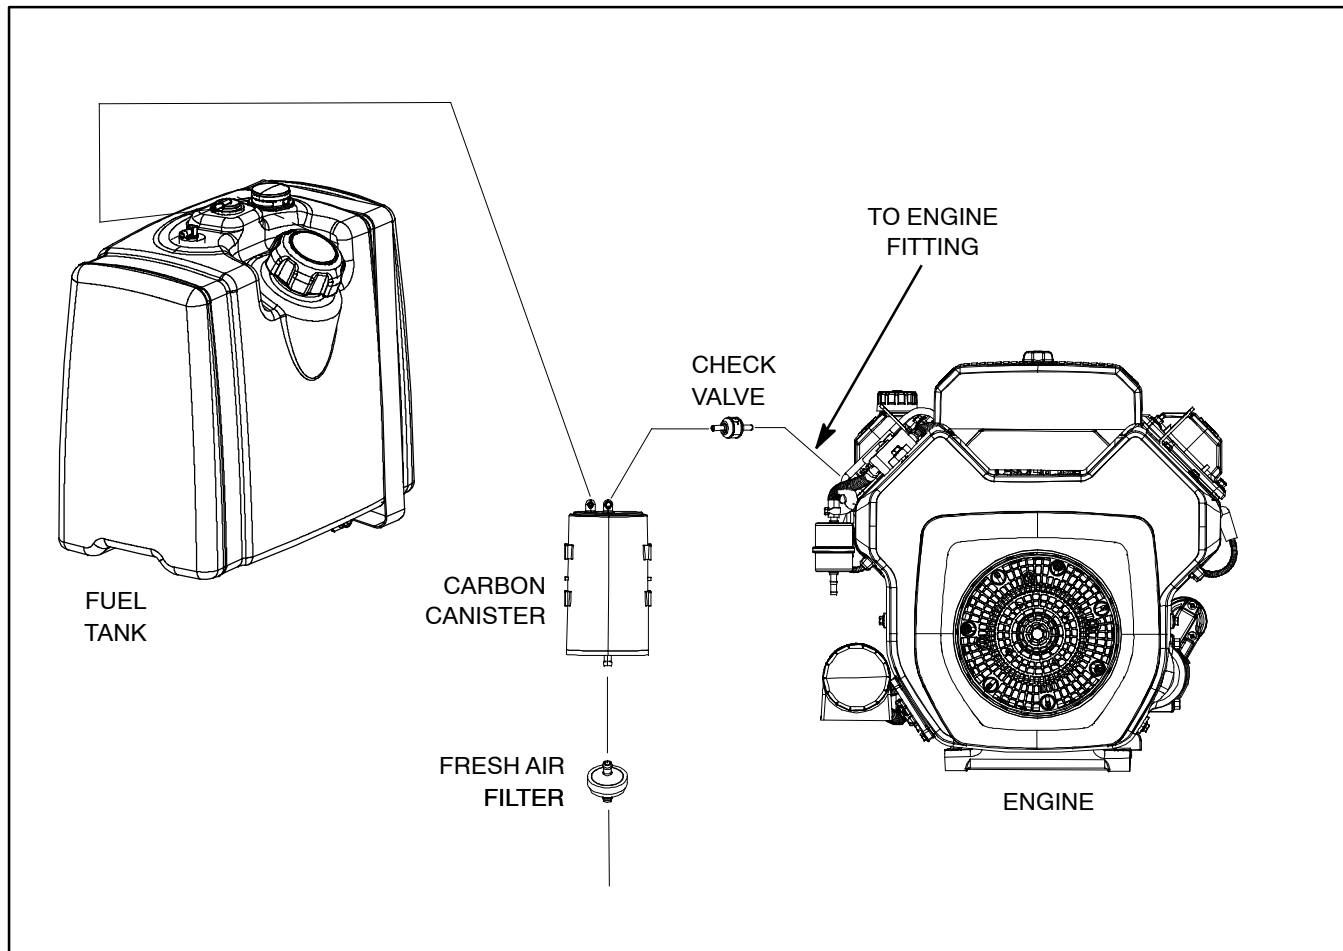

Figure 19
Machines with a carbon canister include a single engine connection to the engine intake system that is used to connect the evaporative system to the engine. These machines use an inline check valve between the carbon canister and the engine fitting. Evaporative control system components for Multi Pro 1200 and 1250 sprayers are shown in Figure 19.
2. Remove EVAP components as needed using Figure 19 as a guide.
A. If check valve (item 7 in Fig. 19) is removed, note direction of arrow on valve body for assembly purposes.
1. Install all removed components using Figure 19 as a guide.
A. If check valve (item 7 in Fig. 19) was removed, make sure that arrow on valve body points toward engine.